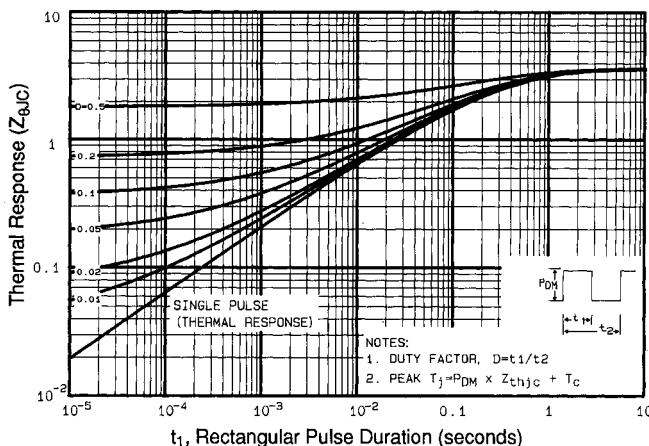

Fig 11. Maximum Effective Transient Thermal Impedance, Junction-to-Case
① Repetitive rating; pulse width limited by max. junction temperature (See Figure 11)
③ $I_{SD}\leq 3.1\text{A}$, $dI/dt\leq 75\text{A}/\mu\text{s}$, $V_{DD}\leq V_{(\text{BR})\text{DSS}}$, $T_J\leq 150^\circ\text{C}$
⑤ $t=60\text{s}$, $f=60\text{Hz}$